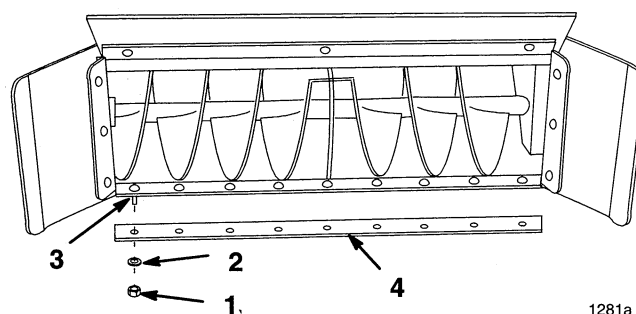

Figure 33
3. Remove nuts, washers, carriage bolts and scraper blade (Fig. 33).
4. Reverse scraper blade and install with previously removed hardware (Fig. 33).